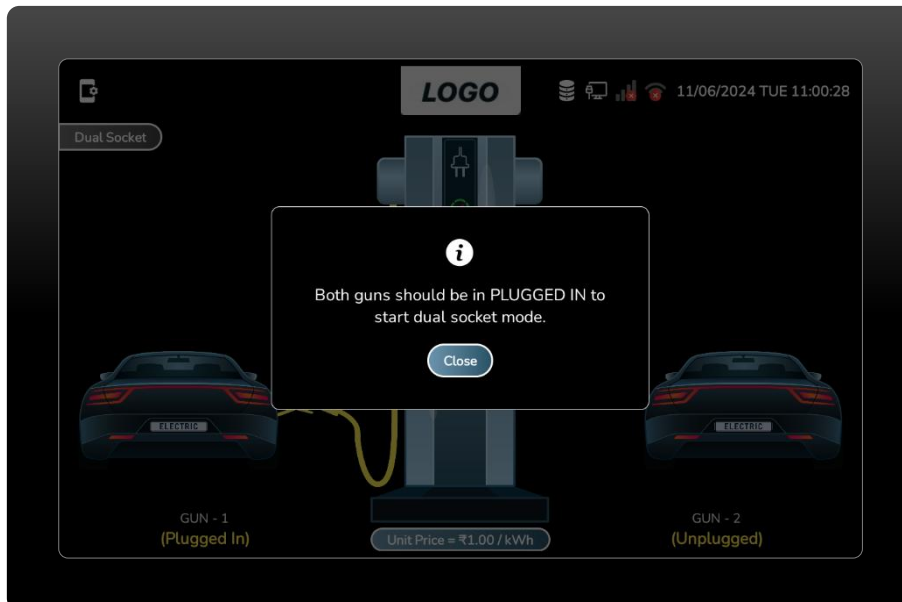

Figure 83 Both Guns Must Connect with Vehicles.
- To enable dual socket mode, the user must connect both guns plugged-in into the vehicles. (Figure 83)